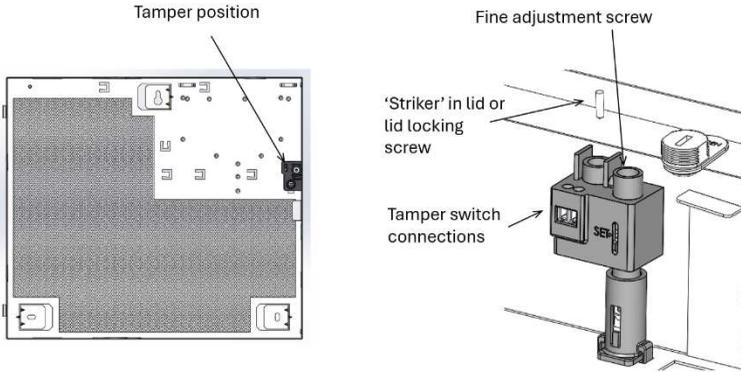

Figure 5: Tamper setting. Illustration is PSU1, Similar position in PSU2
3.6. Tamper (commissioning) Figure 5